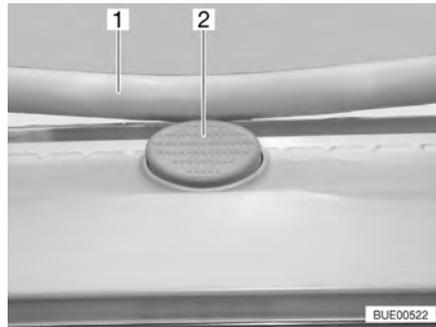

Fig. 59 Safety knob on the Heki skylight
- Press the safety knob (Fig. 59,2) and pull the bar (Fig. 59,1) down with both hands.
- Push the bar upwards with both hands until it is above the safety knob (Fig. 59,2).